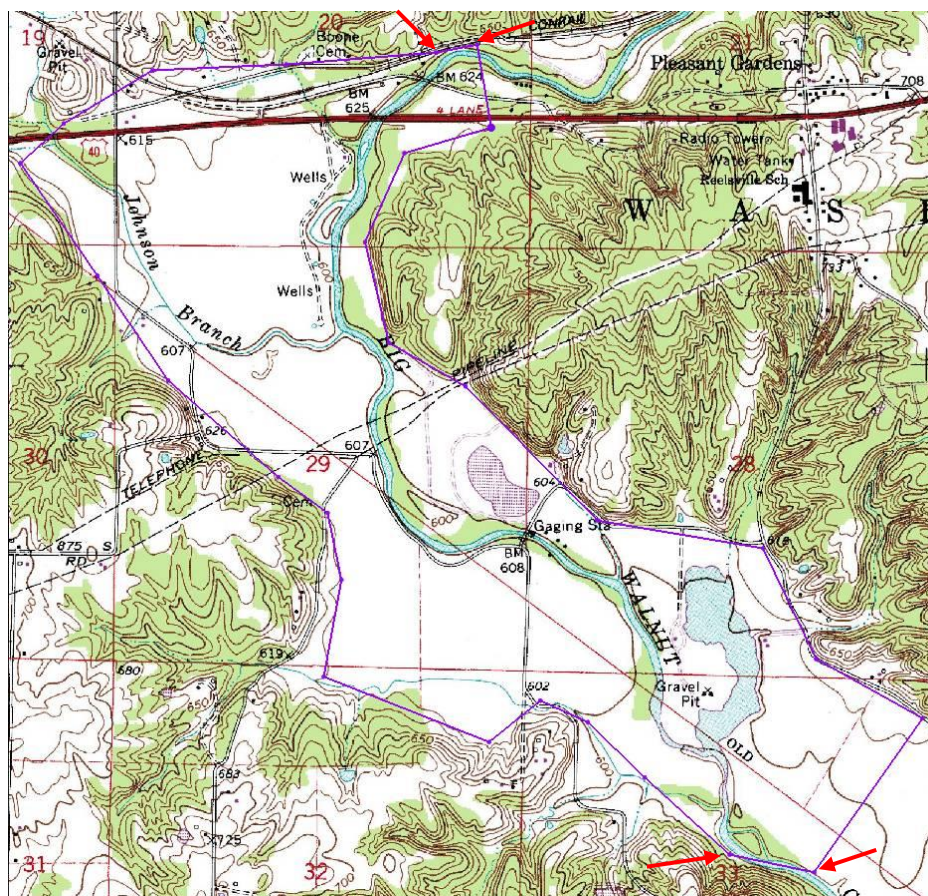

Figure 3 Convert vertices to nodes
4. Use the **Select Objects**  tool to select the four points (vertices and/or nodes) displayed in Figure 3 below. To select more than one point, hold the *Shift* key while selecting.